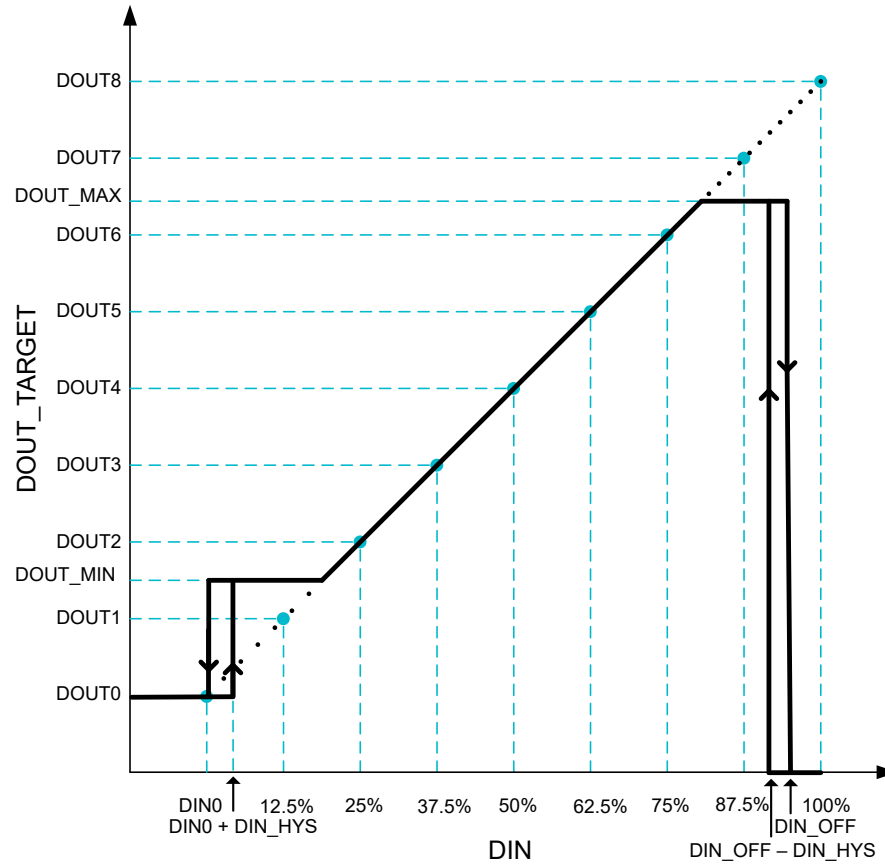
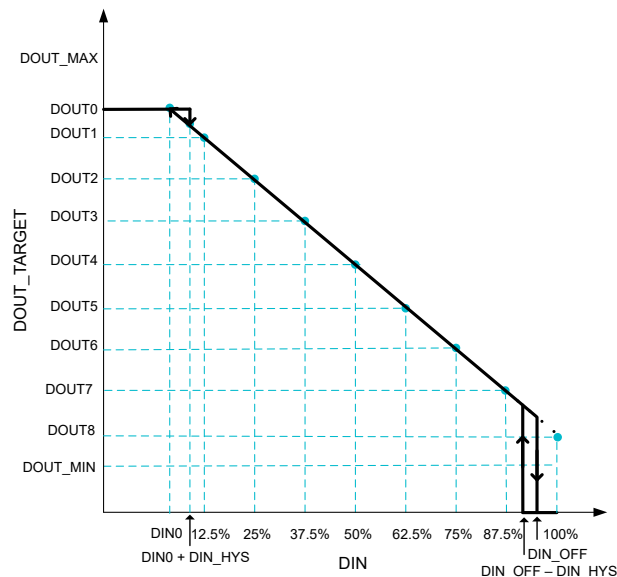
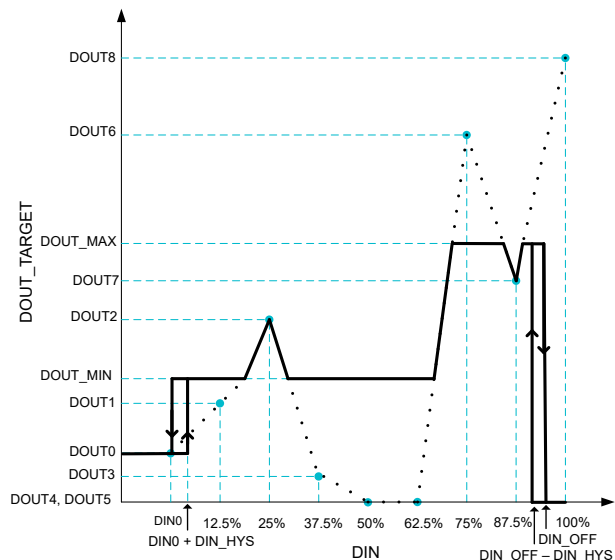

Figure 6-3. Duty Curve
Figure 6-4. Duty Curve - Negative Slope
Figure 6-5. Duty Curve - Mixed Slope
MC121-Q1 supports configurable duty curve as shown in Figure 6-3. This allows user to set the target output duty cycle (DOUT_TARGET) as a function of input duty (DIN) depending on the specific use-case enabling a single platform BLDC driver designs for different end applications.
- **DOUTx:** DOUTx sets the target output duty (DOUT_TARGET) at fixed intervals of input duty (DIN). DOUT1 sets the target output duty at $DIN = 12.5\%$, DOUT2 sets the target output duty at $DIN = 25\%$ and so forth such that DOUT8 sets the target output duty at $DIN = 100\%$. DOUTx can be used to configure a positive slope duty curve as shown in Figure 6-3 or to configure a negative slope as shown in Figure 6-4. DOUTx can also be used to configure mixed slope (positive, negative, and zero) as shown in Figure 6-5.